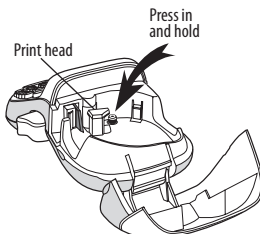

Figure 4
3. Place the tip of a ball-point pen or pencil on the black post as shown in Figure 4, and press the post down.